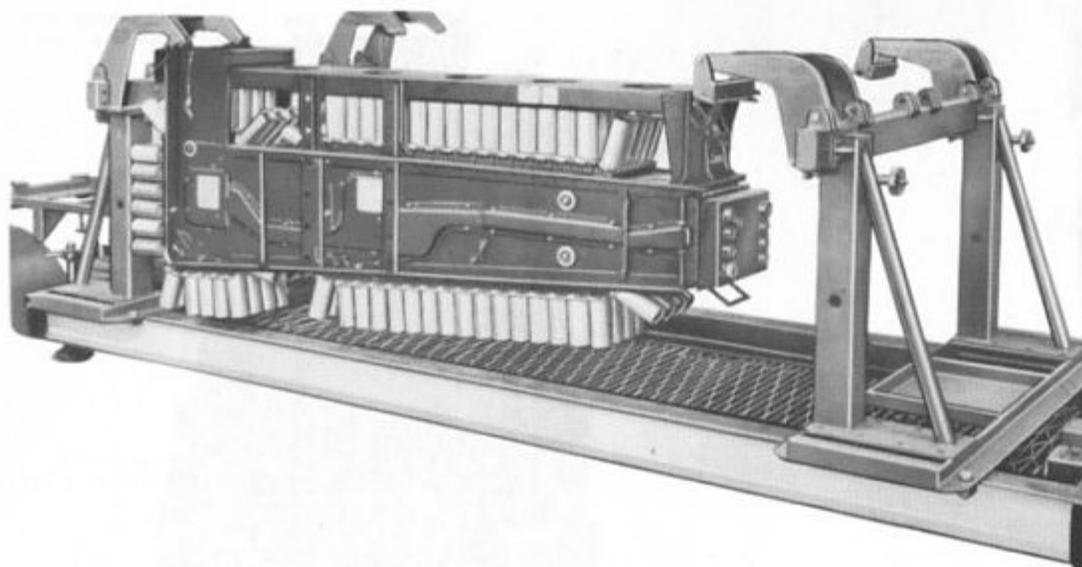

Fig 6 Discharger mounted in cradle on Type-F trolley
(1)	Power	OFF
(2)	Test/test lamps/safe/arm	SAFE
(3)	Stick selectors	0
38. The discharger is mounted in a cradle on a Type-F trolley (Fig 6). Two hoists, heavy aircraft, components, are used to lift the discharger into the window compartment in the wing of the aircraft. The external panels on the underside of the wing are removed also the two window-container stays on the inboard side of the window compartment.